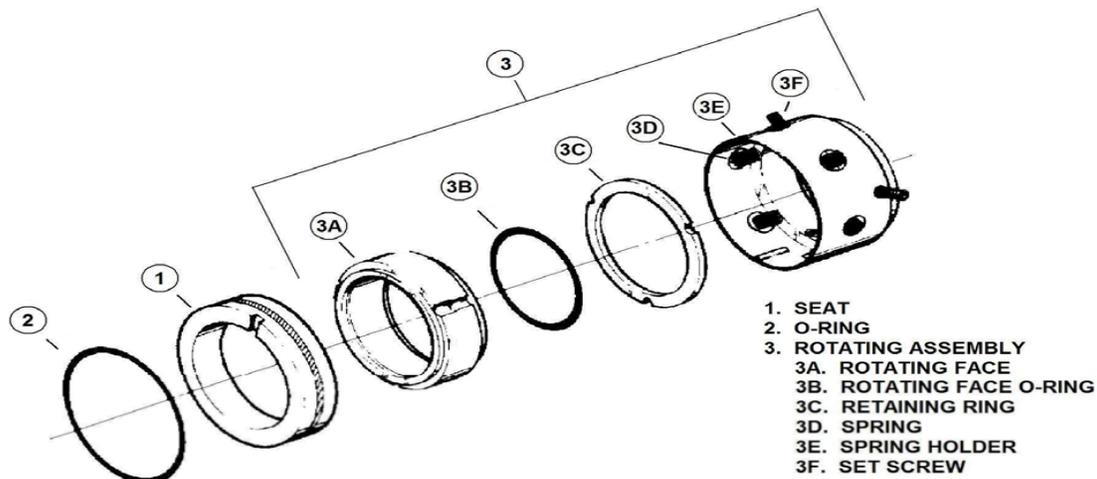
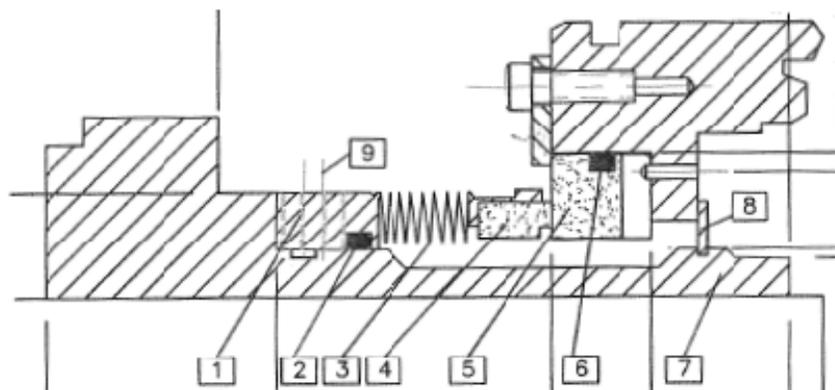

Figure 3. Mechanical Seal Drawing
Figure 4. Cartridge (Bellows Type) Mechanical Seal
The GLH8L-630 and J8L-630 series pumps are equipped with a positive drive mechanical seal. This is a balanced mechanical seal with a carbide rotating face and a carbide stationary face (material is dependent on pump nomenclature). Refer to mechanical seal drawing, figure 3, for construction.
11. Pull power rotor (11) assembly forward from pump to expose mechanical seal (51) assembly which is mounted on shaft sleeve (16).
12. Remove inner spacer (13).
13. Remove shaft sleeve (16) from power rotor (11) shaft. Removal of shaft sleeve (16) will also remove mechanical seal (51), seat adapter subassembly (15), lip seal (6), O-rings (38), seat retainer (5), capscrews (4), and spiral ring (14).
14. Remove spiral ring (14) from groove of shaft sleeve (16).
15. Remove seat adapter subassembly (15) including O-rings (38) and lip seal (6), seat retainer (5), capscrews (4) and mechanical seal stationary seat (1, figure 3) with O-ring (2, figure 3) from shaft sleeve (16). Remove capscrews (4) and seat retainer (5) from seat adapter subassembly (15). Remove mechanical seal stationary seat (1, figure 3) with O-ring (2, figure 3) from seat adapter subassembly (15). Remove O-rings (38) from grooves of seat adapter subassembly (15). Remove lip seal (6) from counterbore of seat adapter subassembly (15).
16. Loosen setscrews (3F, figure 3) and slide mechanical seal (51) rotating assembly (3, figure 3) from shaft sleeve (16).
17. Remove O-ring (36) from groove of power rotor (11) shaft. (If only replacing a minor kit, continue with the following steps. Otherwise proceed to Pump Disassembly, step 3.
18. Inspect power rotor (11) shaft and shaft sleeve (16) and remove any nicks or burrs which are present. Polish power rotor shaft to remove any rust or oxidants that may be present under shaft sleeve. The manufacturer recommends replacement of lip seals (6 and 8), ball bearings (7), mechanical seal (51), and O-rings (12, 36 and 38) when these parts are disturbed from their original installed position. All parts should be coated with light lubricating oil to assist in assembly.
19. Install O-ring (36) in groove of power rotor (11) shaft.
20. Install rotating assembly (3, figure 3) of mechanical seal (51) on shaft sleeve (16) positioned against shoulder of shaft sleeve (16). Install O-ring (2, figure 3) on stationary seat (1, figure 3). Install assembled stationary seat on seat adapter subassembly (15), ensuring that lock pin engages slot of stationary seat. Install seat retainer (5) using capscrews (4). Tighten capscrews (4) to a torque value of 17 in. lbs. \pm 2 in. lbs. (2 Nm). Install O-rings (38) in grooves of seat adapter subassembly (15). Install lip seal (6) in counterbore of seat adapter subassembly (15). Install assembled seat adapter subassembly (15) on shaft sleeve (16). Use caution to avoid damage to stationary seat and O-ring (1 and 2, figure 3).
21. Compress mechanical seal enough to expose spiral ring groove and install spiral ring (14) in shaft sleeve (16), locking mechanical seal (51) assembly into place.
22. Install assembled shaft sleeve (16) on power rotor (11) shaft until it rests against balance piston (17). Use caution when installing shaft sleeve (16) to avoid damage to installed O-ring (36). Tighten setscrews (3F, figure 3). (If only replacing a minor kit, proceed to step 35. Otherwise, proceed to Pump Assembly, step 11.)
23. Pull power rotor (11) assembly forward from pump to expose mechanical seal (51) assembly which is mounted on shaft sleeve (7, figure 4).
24. Remove inner spacer (13).
25. Remove shaft sleeve (7, figure 4) from power rotor (11) shaft. Removal of shaft sleeve (7, figure 4) will also remove mechanical seal (51), seat adapter subassembly (15), lip seal (6), O-rings (38), seat retainer (5), capscrews (4), and spiral ring (8, Figure 4).
26. Remove spiral ring (8, Figure 4) from groove of shaft sleeve (7, figure 4).
27. Remove seat adapter subassembly (15) including O-rings (38) and lip seal (6), seal retainer (5), capscrews (4) and mechanical seal stationary seat (5, figure 4) with O-ring (6, figure 4) from shaft sleeve (7, figure 4). Remove capscrews (4) and seal retainer (5) from seat adapter subassembly (15). Remove mechanical seal stationary seat (5, figure 4) with O-ring (6, figure 4) from seat adapter subassembly (15). Remove O-rings (38) from grooves of seat adapter subassembly (15). Remove lip seal (6) from counterbore of seat adapter subassembly (15).
28. Loosen setscrews (1 and 9, figure 4) and slide mechanical seal rotating assembly (4, figure 4) from shaft sleeve (7, figure 4).
29. Remove O-ring (36) from groove of power rotor (11) shaft. (If only replacing a minor kit, continue with the following steps. Otherwise proceed to Pump Disassembly, step 4.)
30. Inspect power rotor (11) shaft and shaft sleeve (7, figure 4) and remove any nicks or burrs which are present. Polish power rotor shaft to remove any rust or oxidants that may be present under shaft sleeve. The manufacturer recommends replacement of lip seals (6 and 8), ball bearings (7), mechanical seal (51), and O-rings (12, 36 and 38) when these parts are disturbed from their original installed position. All parts should be coated with light lubricating oil to assist in assembly.
31. Install O-ring (36) in groove of power rotor (11) shaft.
32. Install rotating assembly (3, figure 4) of mechanical seal (51) on shaft sleeve (7, figure 4) positioned against shoulder of shaft sleeve. Install O-ring (6, figure 4) on stationary seat (5, figure 4). Install assembled stationary seat on seat adapter subassembly (15), ensuring that lock pin engages slot of stationary seat. Install seat retainer (5) using capscrews (4). Tighten capscrews (4) to a torque value of 17 in. lbs. \pm 2 in. lbs. (2 Nm). Install O-rings (38) in grooves of seat adapter subassembly (15). Install lip seal (6) in counterbore of seat adapter subassembly (15). Install assembled seat adapter subassembly (15) on shaft sleeve (16) next to installed mechanical seal rotating assembly, using caution to avoid damage to stationary seat and O-ring (1 and 2, figure 3) and O-rings (38).
33. Compress mechanical seal enough to expose spiral ring groove and install spiral ring (14) in shaft sleeve (16) to lock mechanical seal (51) assembly into place.
34. Install assembled shaft sleeve (16) on power rotor (11) shaft until it rests against balance piston (17). Use caution when installing shaft sleeve (16) to avoid damage to installed O-ring (36). Tighten setscrews (1 and 9, figure 4). (If only replacing a minor kit, proceed to Bearing Installation, step 35. Otherwise, proceed to Pump Assembly, step 11.)